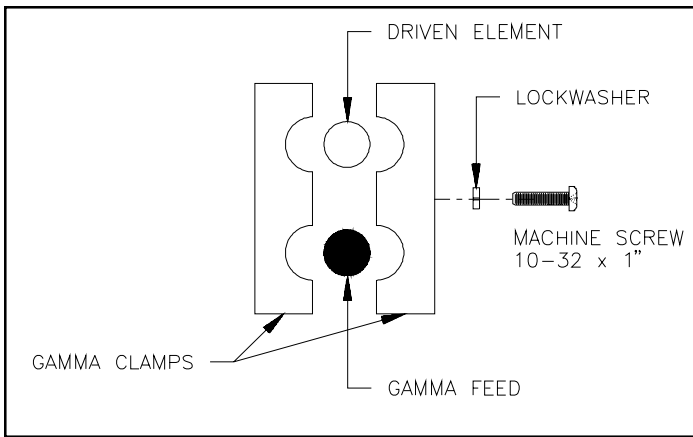

Figure 10: Gamma Clamp
4. Using the gamma clamps and hardware provided, assemble the driven element and gamma feed to the boom (see Figure 10 on page 4).